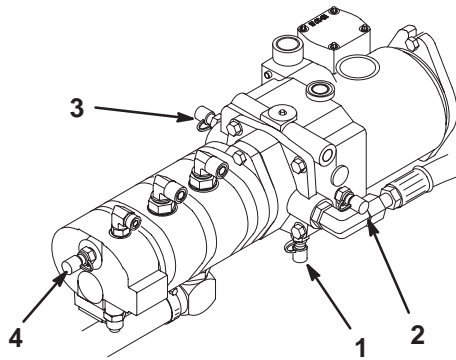

Figure 60
4. Test Port “D” is located on the bottom of the hydrostatic transmission (Fig. 60) and is used to measure the charge pressure of the transmission.
6. Test Port “F” is used to measure traction reverse pressure (Fig. 60).
7. Test Port “G” is used to measure steering circuit pressure (Fig. 60).